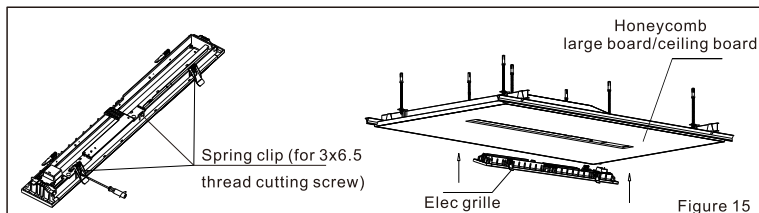

Figure 15
(2) Drywall ceiling opening cutting installation (applicable to ceiling board with a thickness of 6-10mm)
b. Lay the ceiling board down, and determine the hole position and size according to the template 604x75mm (Figure 14). Cut an opening and check whether the grille can fit into the opening. The maximum external size of the grille should cover the opening large panel without gaps. Make sure the grille air outlet is in the same direction as the fan unit air outlet, connect the grille and fan unit cable, and install the spring buckle on one side of the grille into the opening on the ceiling board first. Then bend the spring clip on the other side upward 90 degrees and insert it into the opening (Figure 15).